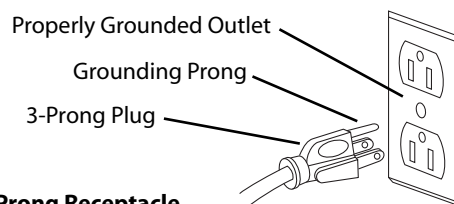

Figure 1 – 3-Prong Receptacle
rated at 300V and a 3-prong, grounding type plug (See Figure 1) for your protection against shock hazards.
- Grounding plug should be plugged directly into a properly installed and grounded 3-prong grounding-type receptacle (See Figure 1).